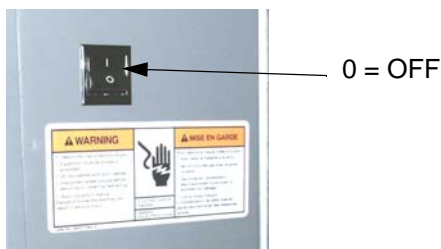

FIG. 11
4. Shut off ProMix™ Auto power (0 position). FIG. 11.